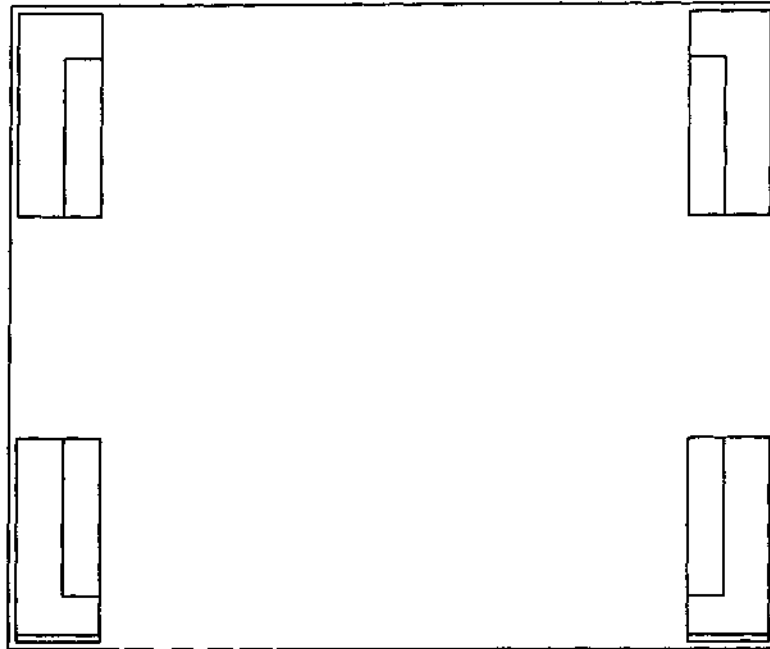

Figure 1
2. Position the 4 ceramic supports P/N 50054 - 50055 - 50056 and 50057 at the four corners of the working chamber (Figure 1).